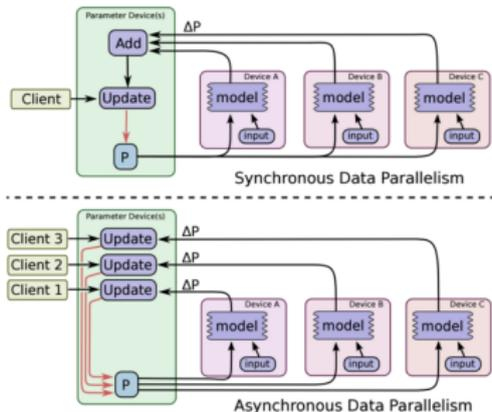

Figure 32: Synchronized training vs. asynchronous training
- Synchronized training vs. asynchronous training (Figure 32)